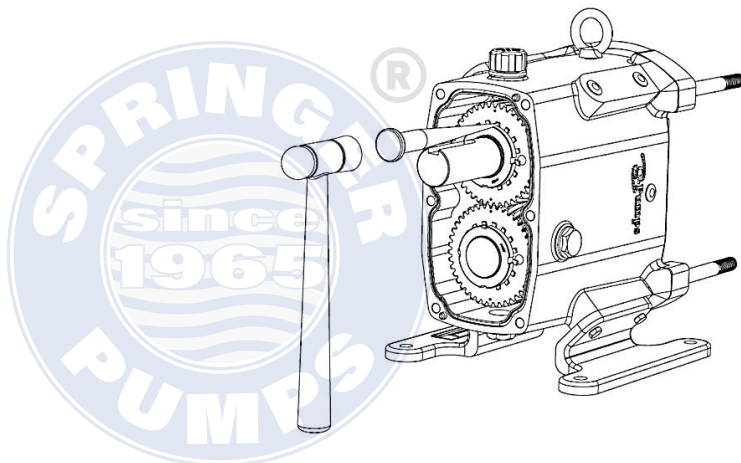

Figure 43: Bending Tabs on Lock Washers
2) Using a hammer and a punch, bend the tabs straight on the lock washers (Figure 43). Use a wedge (wood or plastic) to keep the shafts from turning while removing the lock nuts (Figure 44). Using a spanner wrench or punch, remove the gear lock nuts. Slowly remove the gears from the shafts. Remove the gear keys and gear spacers from the shafts.